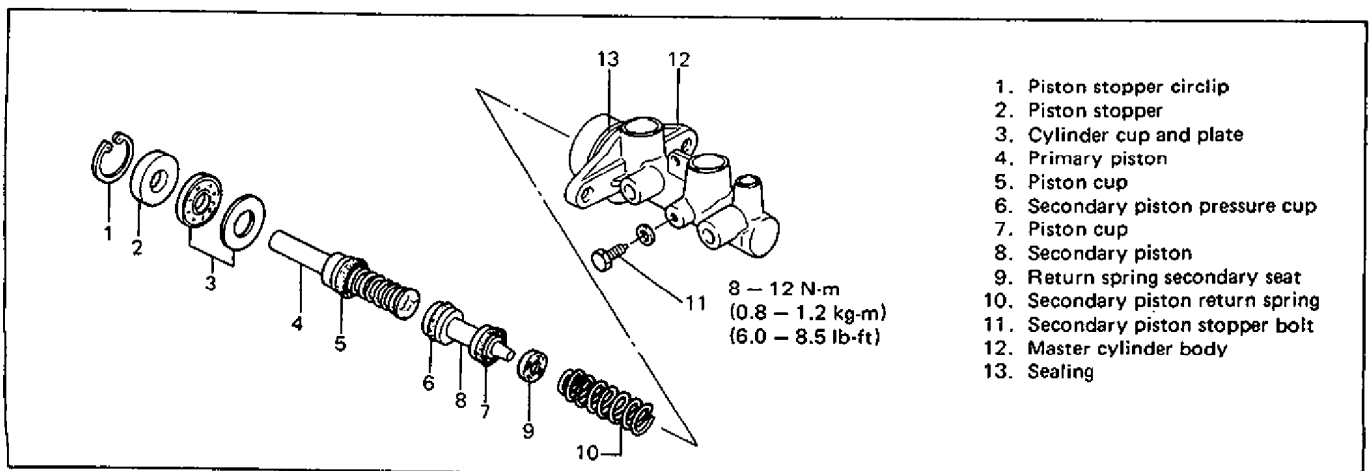

Fig. 5-112 Master Cylinder Repair - B
- 1) Assemble secondary piston as shown in Fig. 5-112.